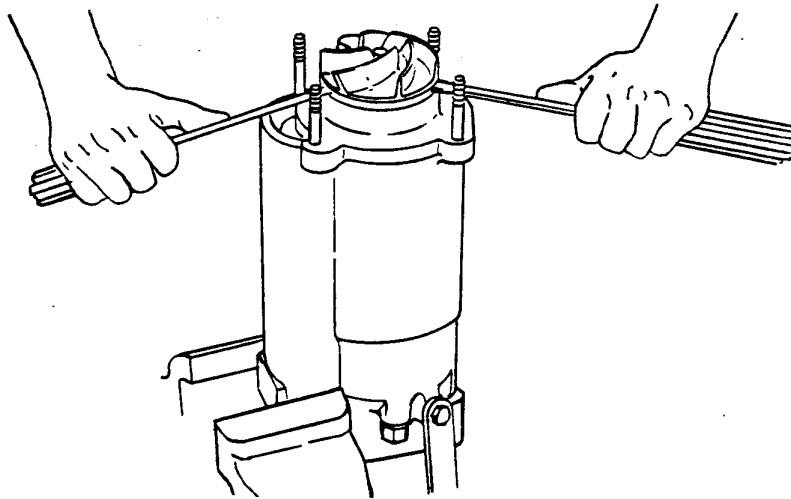

Figure 3. Removing Pump Impeller
Wedge a piece of wood between one of the vanes of impeller (2) and a stud (17) to prevent shaft rotation. Unscrew impeller nut (2) and remove the flat washer (22). Pry off the impeller using two screwdrivers as shown in Figure 3 and remove the key (20).